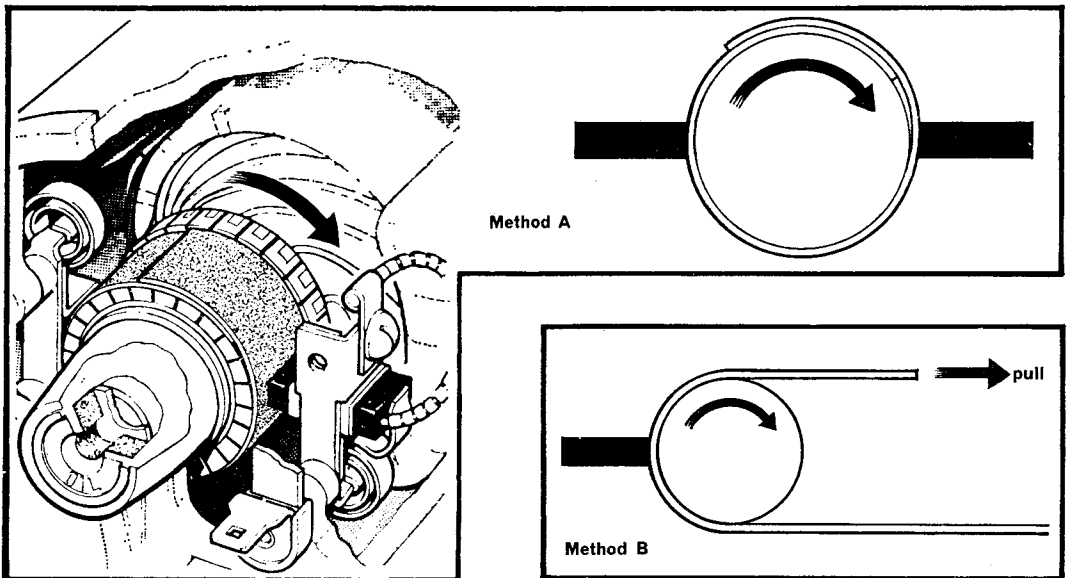

Fig. 3 Bedding in methods
- (1) Cut a strip of fine glass paper (Grade 00) of the same width as the commutator and long enough to pass completely round it with a considerable overlap.
- (2) Wrap the strip of glass paper, abrasive side outwards, round the commutator in a direction opposite to the normal direction of rotation of the armature (Fig 3).
- (3) Fit the brushes into their holders, and adjust the spring pressure to its normal running value (if adjustable). Normal brush pressure will hold the glass paper in place round the commutator.
- (4) Turn the armature by hand in the normal direction of rotation until the contact surface of all brushes is worn to approximately the same contour as the commutator.
- (5) Remove the glass paper and blow all loose carbon dust from the machine. Run the machine at minimum load for about a quarter of an hour to polish the working faces of the brushes.
- (6) Remove and examine each brush in turn, making sure that there are no high spots and that each brush is a free sliding fit in its holder. Any high spots should be eased by re-bedding that brush using method B.
- (1) Cut a strip of fine glass paper of the same width as the commutator and of as great a length as possible.
- (2) Pass the end of the strip over the commutator, abrasive side outwards, as shown in figure 3. Hold the ends of the strip so that the paper is in contact with the commutator for at least 180°.
- (3) Fit the brush to be bedded into its holder and pull the strip of glass paper across the brush in the direction of normal armature rotation.
- (4) Raise the brush so that it does not contact the paper when drawing the paper back to its starting position. Continue (3) and (4) until the brush is shaped.
- (5) Blow out all carbon dust and run the machine as described for method A.